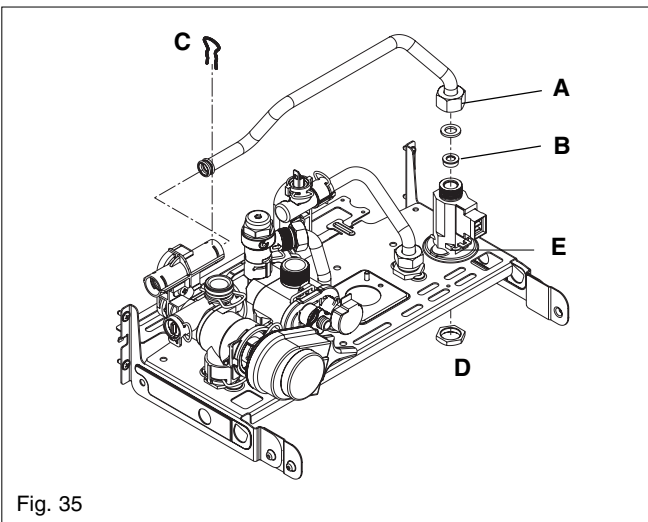

Fig. 35
6.17 FLOW RESTRICTOR (fig. 35)
6.18 DHW FLOW SWITCH (fig. 35)